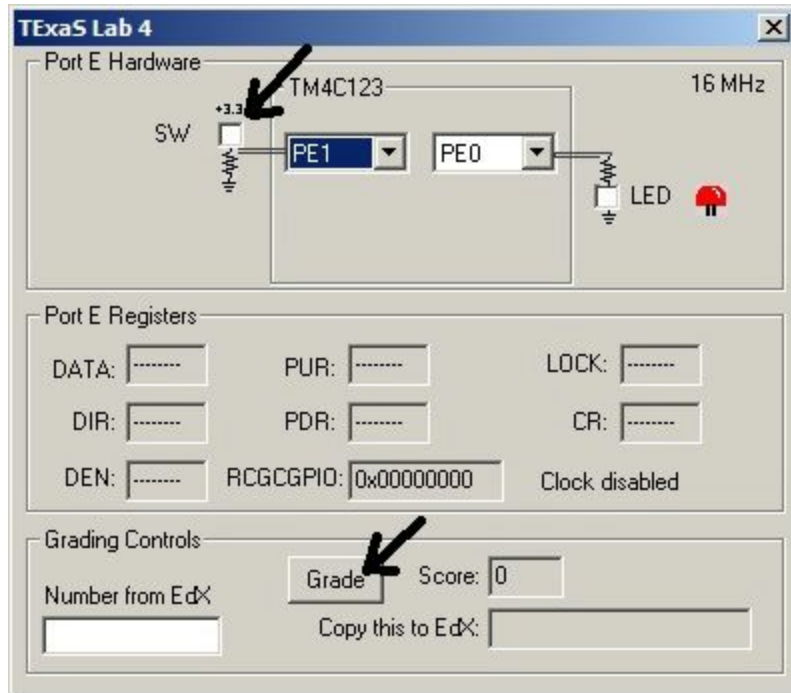
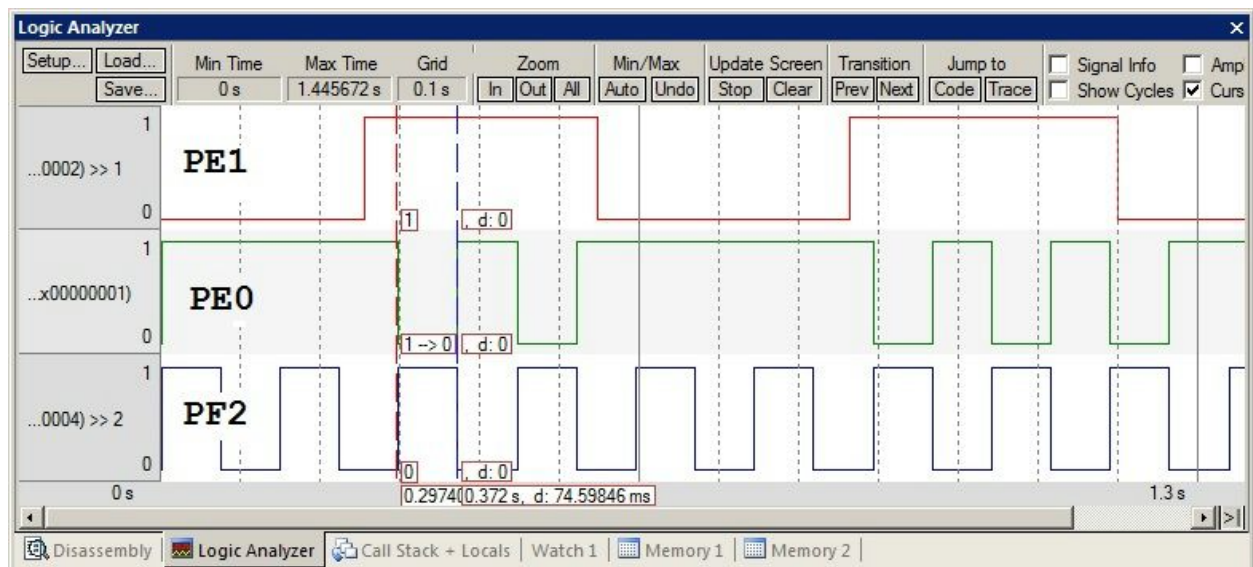

Figure 4.1. Using TExaS to debug your software in simulation mode (DCM.DLL -pCM4 -dEE319KLab4).
Figure 4.2. Simulation output showing the input on PE1, output on PE0 and heartbeat on PF2.
Debug your combined hardware/software system first with the simulator, then on the actual TM4C123 board. Figure 4.1 shows how to configure the Lab 4 simulator. Figure 4.2 is screenshot of Lab 4 in simulation mode. You can find the address of the buffers by looking in the map file. You can dump the memory to a file using the command (the data is formatted in a little-endian hexadecimal format) **'SAVE data.txt 0x20000000 , 0x20000190'** replacing the values 0x20000000 and 0x20000190 with the start and end addresses of your arrays .
- A screenshot showing the system running in simulation mode. In the screenshot, please show the dumped data in a memory window and the I/O window, as illustrated in Figures 4.2 and 4.3